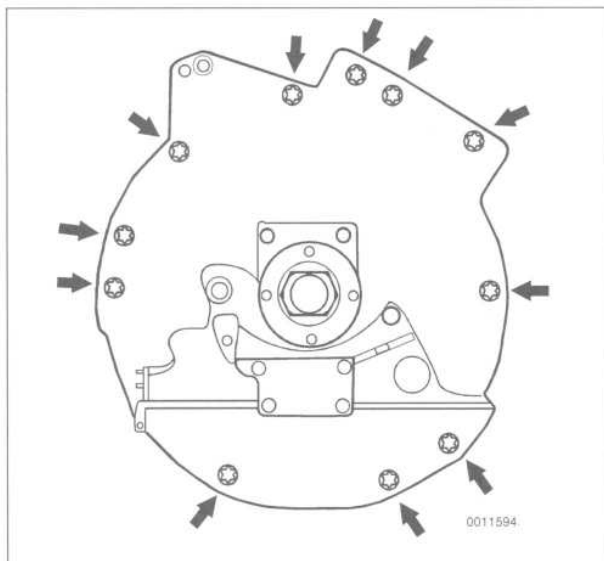

Fig. 11. Transmission to engine mounting bolts (arrows).
13. Remove bolts from transmission bellhousing. See Fig. 11.